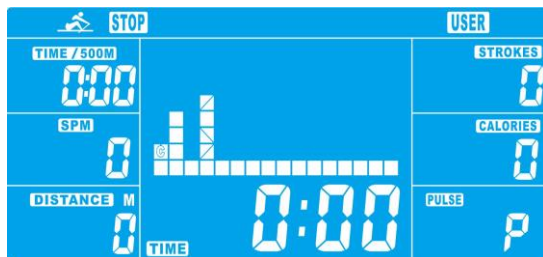

Fig. 15
- b. Press UP and DOWN to set the resistance level of each column (Fig. 15). Press ENTER to confirm and move onto the next column. Hold ENTER for 2 seconds to finish or quit settings.